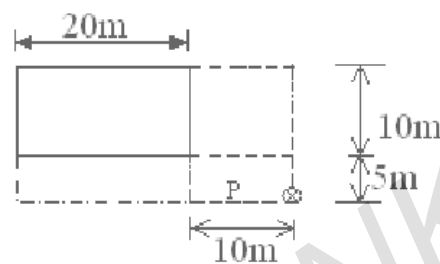

Figure 7
7. A rectangular foundation $20\text{ m} \times 10\text{ m}$ subjects the subgrade to a contact pressure of 250 kN/m^2 . Determine the vertical stress at a point 'P' located at a depth of 5 m as shown in figure 7. [16]